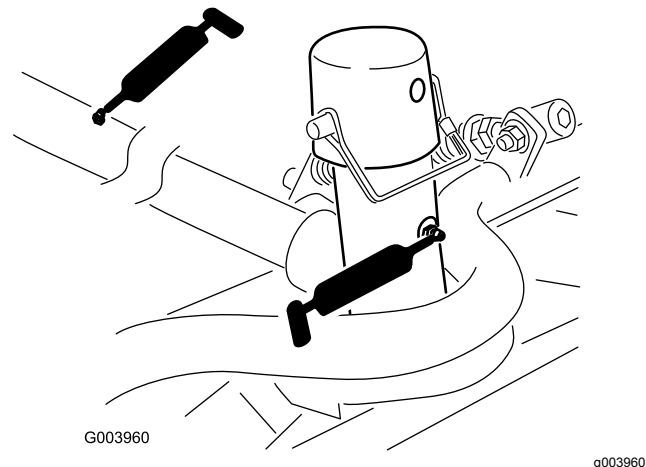

Figure 43
- Cutting-unit carrier-frame and pivot (2 each) (Figure 43)